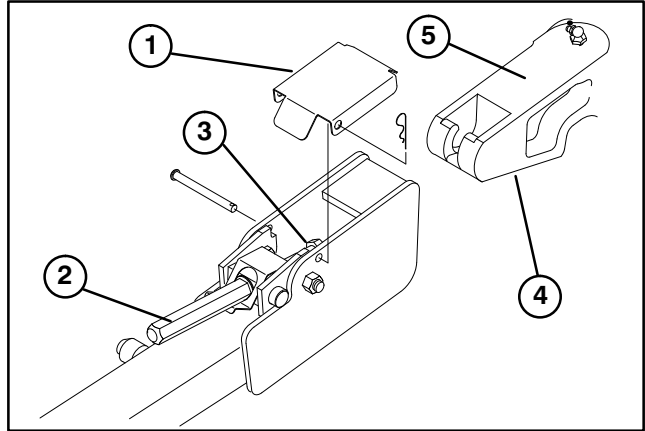

Figure 21
3. Adjust lift arms heights making sure that the machined surface on top of each traction unit lift arm is parallel to ground (Fig. 21). (Raise or lower lift arm casting by pushing up or down from behind the front tires or using wrench in front of traction unit)